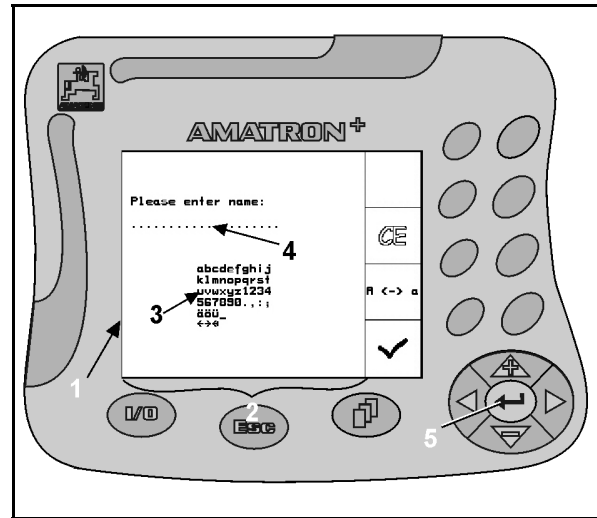

Fig. 15
If **AMATRON+** requires the input of text or figures the entry menu (Fig. 15/1) appears on the display (Fig. 15/2)..
In the entry menu (Fig. 15/3) the individual letters or figures are chosen that will appear in the input line (Fig. 15/4)..
1. Select the desired letter or the desired figure in the selection field (Fig. 15/3) with
2. Press key  (Fig. 15/5), to take over the accept the selected letter or the selected figure into the input line (Fig. 15/4).
The arrows   in selection field (Fig. 15/3) allow the movement of the cursor within the input line (Fig. 15/4).
The arrow  in the selection field (Fig. 15/3) deletes the last input.